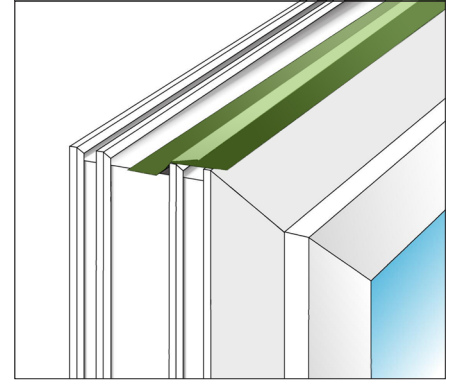

Fig 1: Bond film to edge of window frame
- Bond membrane with the self-adhesive strip to the outer edge of the window frame ensuring that the expansion pleat fold line is in line with the edge/inner face junction of the frame as fig 1 (note, drawing shows an inward opening window). Start at the centre of bottom frame section.